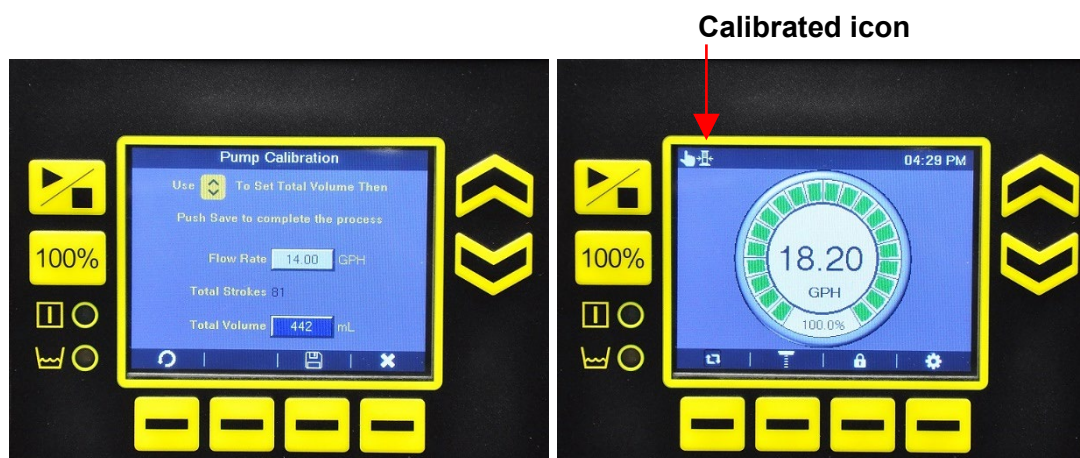

Figure 30: Pump Calibration
9. The total volume box will be highlighted (Figure 30). Using the **Up** or **Down** buttons, enter the actual volume measured during the calibration.